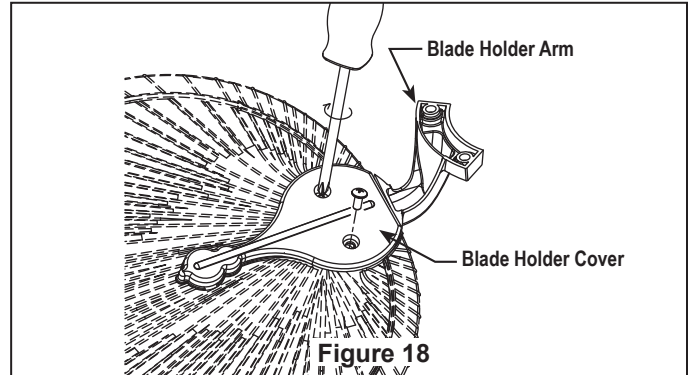

Figure 18
2. Lay flat side of blade holder arm on a flat surface with the inside of the blade holder arm facing up. This is the side with the threaded posts and pitched foot. Position the blade cover the blade holder with the threaded posts showing. Make sure the bottom edge of the blade is fully seated against the blade holder arm. Place blade holder cover on top of the blade, positioning the holes over the threaded posts. With a Philips screwdriver, thread both screws into the posts but do not fully tighten. Prior to final tightening, position the centerline of the blade holder with the center of the end of the blade. Tighten both screws to secure the blade. (Figure 18)